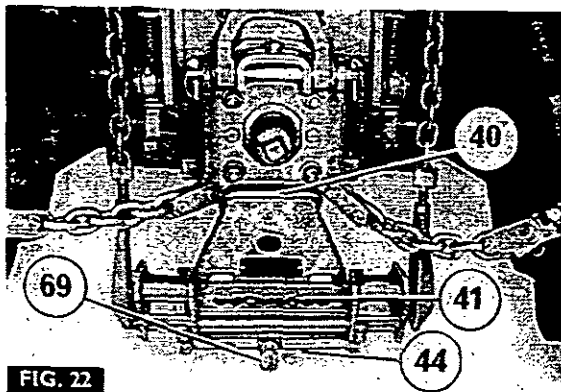
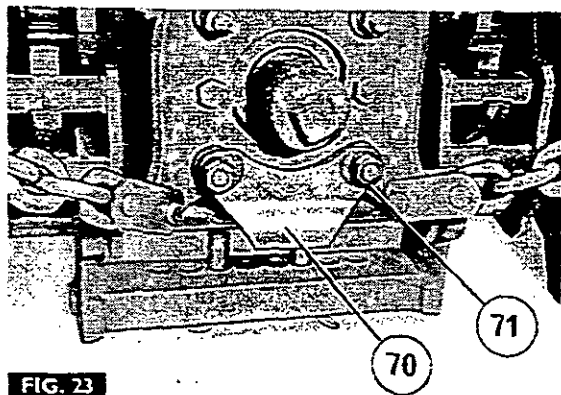

FIG. 22
FIG. 23
19. Place a strip of metal 1,5 mm x 25 mm x 150 mm ( $\frac{1}{16}$  in x 1 in x 6 in) on top of the drawbar frame, above the locating pins (41, Fig. 22), then jack up the frame, as shown, until the strip of metal is trapped between the frame and the drawbar mounting bracket.
24. Remove the jack, then lower the hitch by moving the lever (53) forwards, and moving the 'Position Control' lever to the 'Down' position.
25. Fig. 22. Remove the metal strip, then push out the drawbar pin (40) and withdraw the drawbar.
26. Fit the hitch hook (69), refitting the drawbar pin (40), then if necessary remove the hairpins (44) and locating pins (41) and refit them to centralise the hook.
27. Fig. 23. Remove the p.t.o. shield (if fitted) then remove the two nuts (71), spring washers and spacers securing the bottom of the check chain anchor bracket.
28. Fit the hook stop plate (70), spring washers and nuts (71), discarding the two spacers.